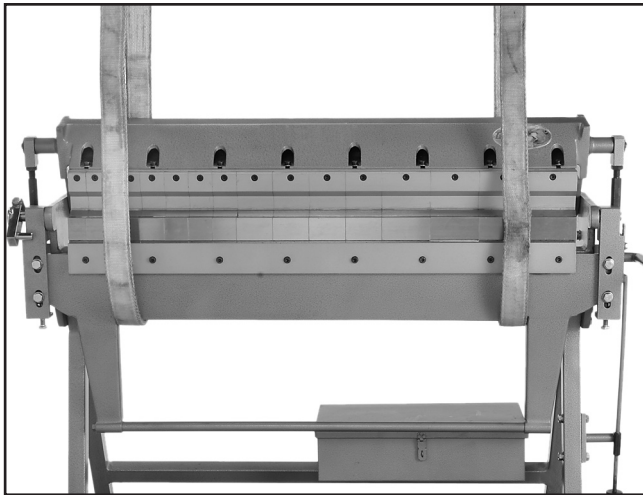

Figure 3. Swivel bending brake supported evenly by two lifting straps.
- Make sure the body of the brake is bearing the load (**Figure 3**).